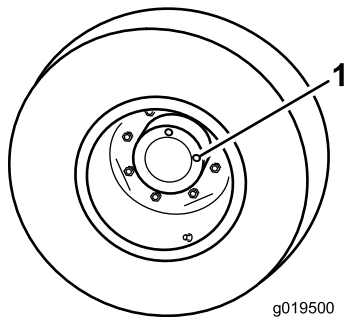

Figure 12
1. With machine on level surface, position the wheel so one check plug (Figure 12) is at the 12 o'clock position and the other is at 3 o'clock position.
1. Check/drain plug (2)
2. Remove the plug at the 3 o'clock position (Figure 12). Oil level should be at the bottom of the check plug hole.